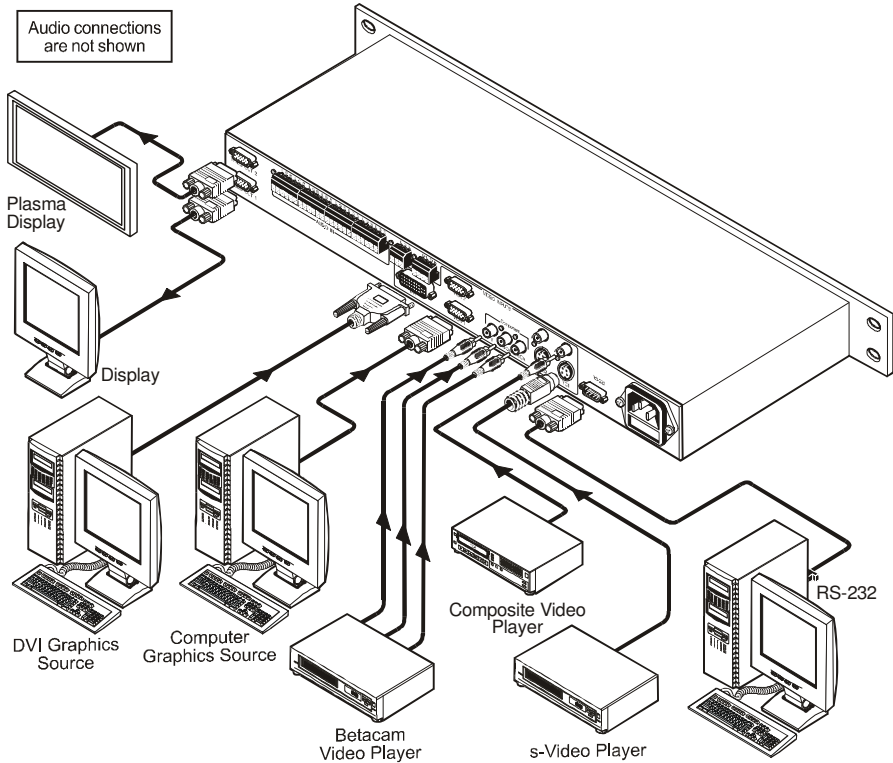

Figure 9: Connecting the VP-724xl Rear Panel
To connect the **VP-724xl** for example¹ (see Figure 9), do the following²:
2. Connect the stereo audio sources⁶ (not illustrated in Figure 9):
4 Alternatively, you can connect an RGB signal (not shown in Figure 9), as follows: Red to the Y connector, Green to the Pb/Cb connector, and Blue to the Pr/Cr connector
4. Connect the LINE AUDIO OUT terminal block connector to one of the audio acceptors, for example, speakers (not illustrated in Figure 9)
6. The power cord¹ (the power connector is not illustrated in Figure 9).